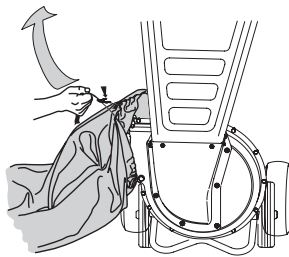

Figure 2
1. Place the opening of the bag completely over the chute deflector. See Figure 2.